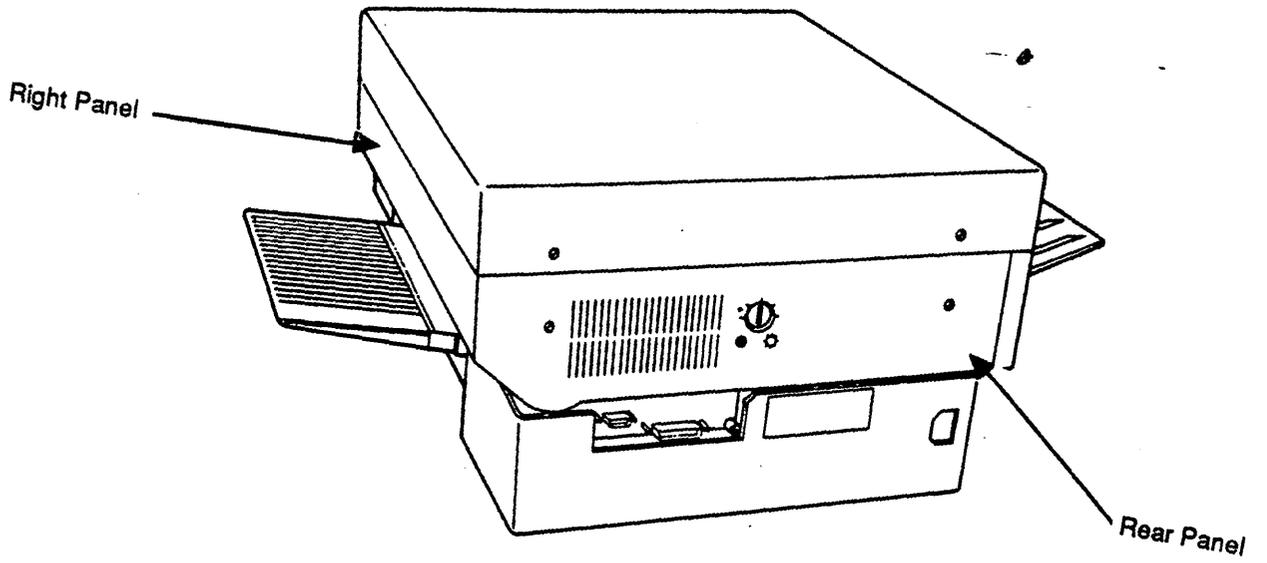

Figure 2-5 : Rear View
D. Rear Panel (See Figure 2-5)